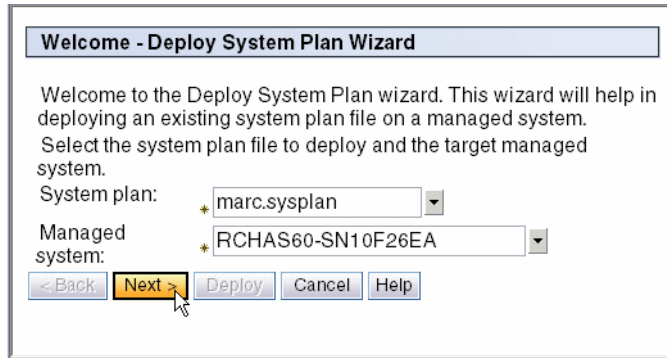

Figure 4-20 Confirm the deployment startup
2. After the wizard is started, its Welcome page, shown in Figure 4-20, requests that you confirm the system plan to deploy and choose the managed server to be the target of the procedure. When your choices are done (in our example, we want to deploy the *marc.sysplan* file to the *RCHAS60-SN10F26EA* server), click **Next** to continue.